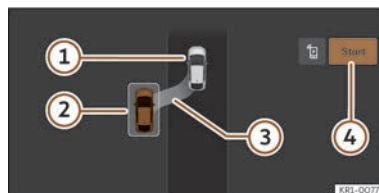
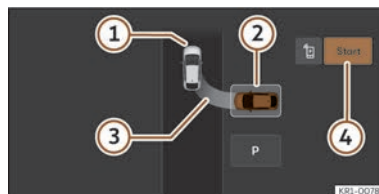

Fig. 152 On the infotainment system display: parallel parking position.
Fig. 153 On the infotainment system display: parking bay parking position.
>>> Fig. 152, >>> Fig. 153
- ① Your vehicle
- ② Parking space detected
- ③ Indication showing the proposed parking manoeuvre
- ④ Start parking manoeuvre
- Look at the display on the infotainment system's screen to see if the space has been detected as "appropriate" and if the correct position for parking has been reached >>> Fig. 152, >>> Fig. 153. Stop the vehicle and follow the instructions shown on the infotainment screen.
- Stop the vehicle, press the brake and, after a short pause, press the **Start** ④ button in the infotainment system.